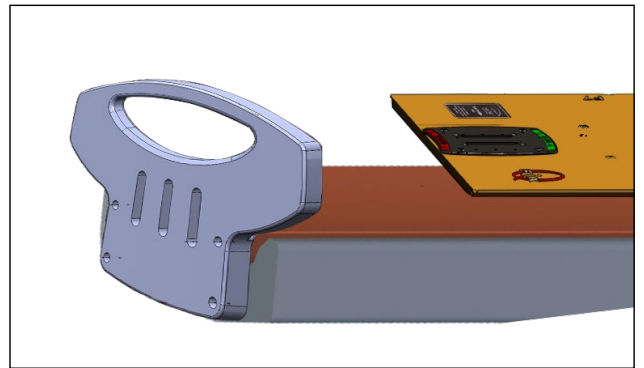

Fig. 19
1. Position the CT Overlay on the Siemens cradle with foot end, Foot End Latch Assembly Mounting Block, a few inches from contacting Foot End Plate and CT Overlay is centered on Siemens cradle (Fig. 19).